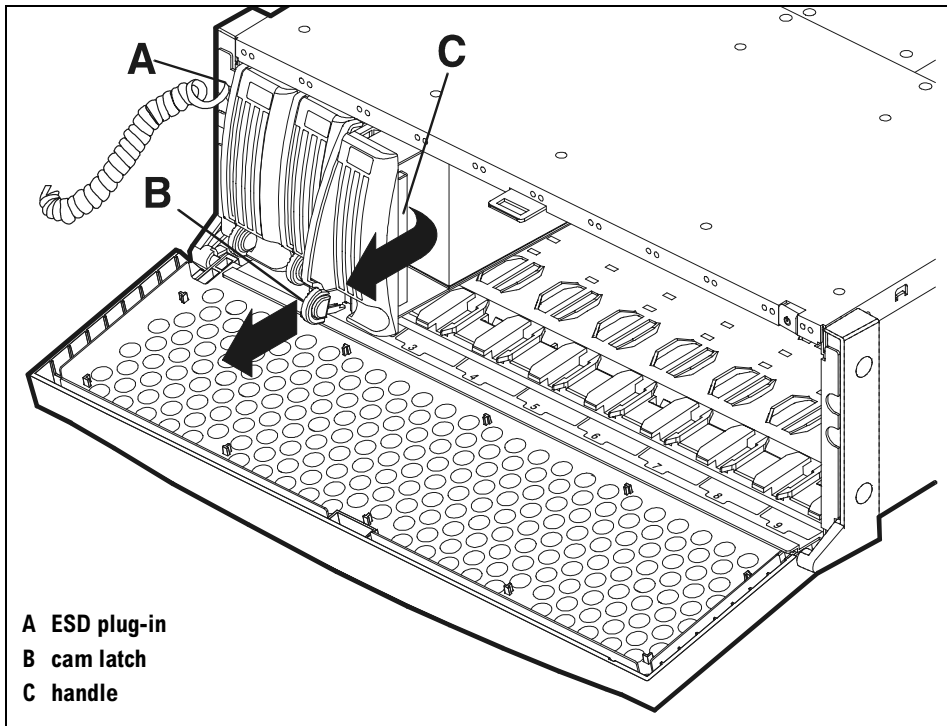

Figure 50 Disk Removal
2. Insert the plug of your static wrist strap into the disk system ESD socket (A in Figure 50).